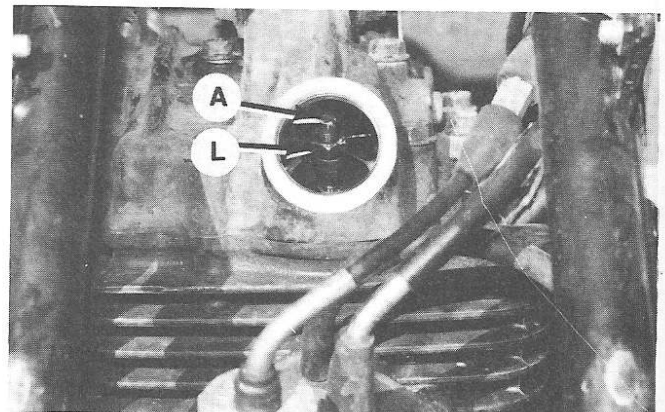

Fig. S6-13—Clearance between valve stem and adjusting screw (A) should be 0.08-0.13 mm (0.003-0.005 in.) for both intake and exhaust valves.
Clearance between rocker arm adjusting screw and valve stem should be 0.08-0.13 mm (0.003-0.005 in.) for both intake and exhaust valves. Clearance is adjusted by loosening locknut (L—Fig. S6-13) and turning screw (A). Be sure to recheck adjustment after locknuts have been tightened.